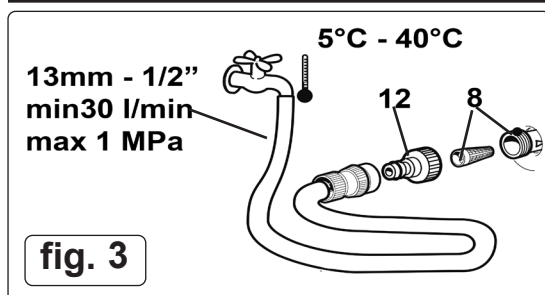

fig. 3
- 6.3.1. Turn off water supply (fig.3).